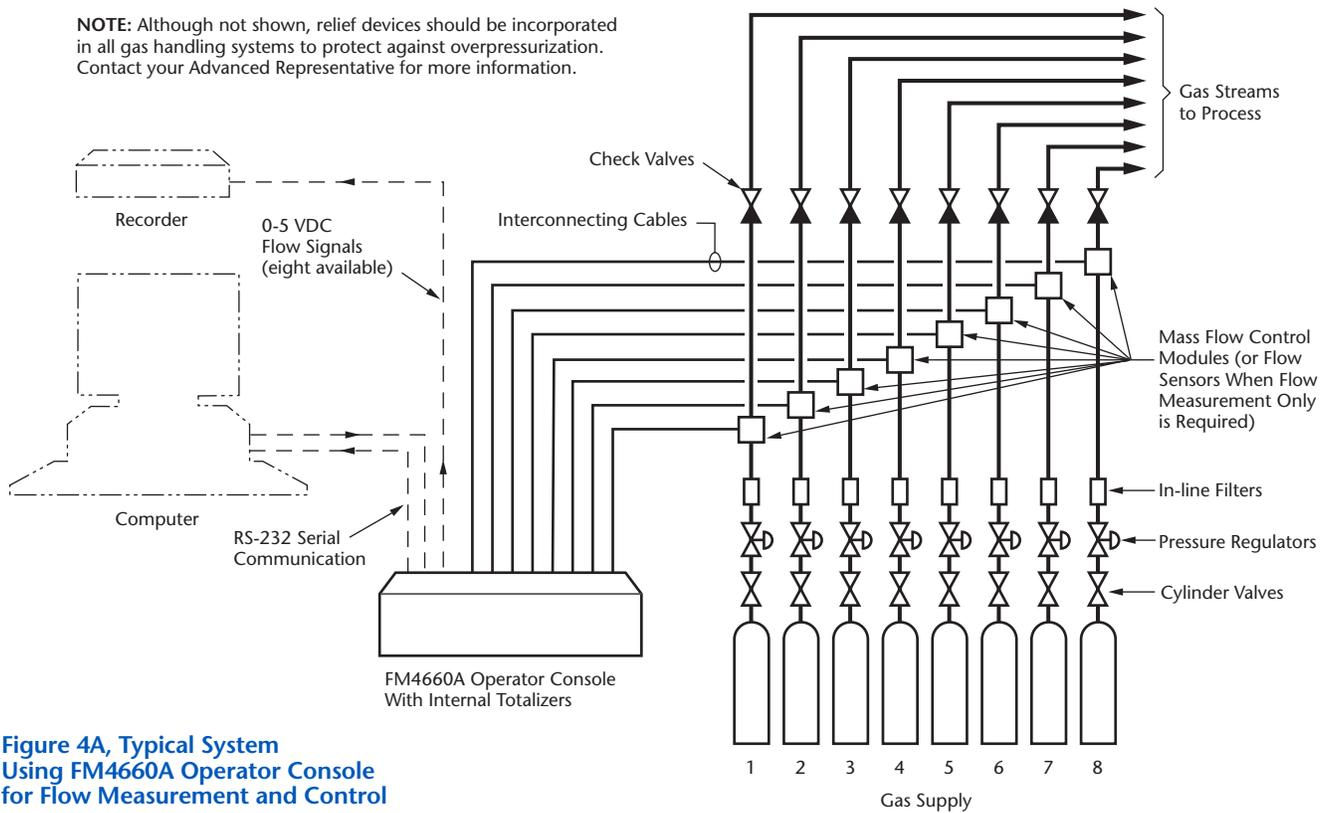

Figure 4A, Typical System Using FM4660A Operator Console for Flow Measurement and Control
4. Model FM4660A is also used for applications requiring both flow measurement and control. As shown in Figure 4A, it will operate with up to eight Flow Control Modules (or Sensors if desired). This model features: